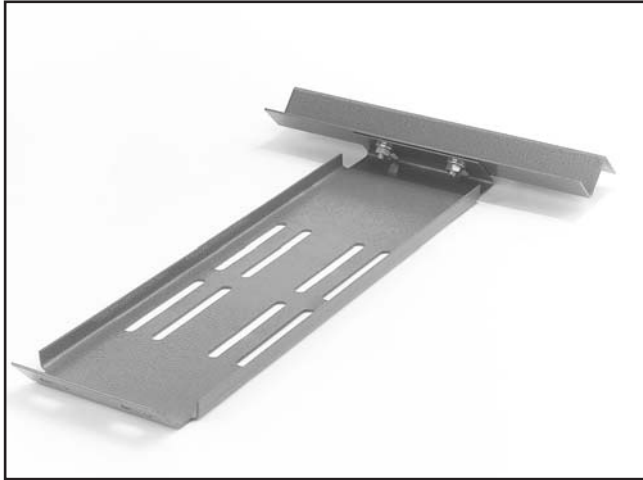

Figure 10. Motor mounting bracket attached to the top panel "S" brace.
- Attach the motor mounting plate to the top panel "S" brace with (2) $\frac{5}{16}$ "-18 x $\frac{1}{2}$ " carriage bolt, $\frac{5}{16}$ " washers and $\frac{5}{16}$ "-18 hex nuts (**Figure 10**).